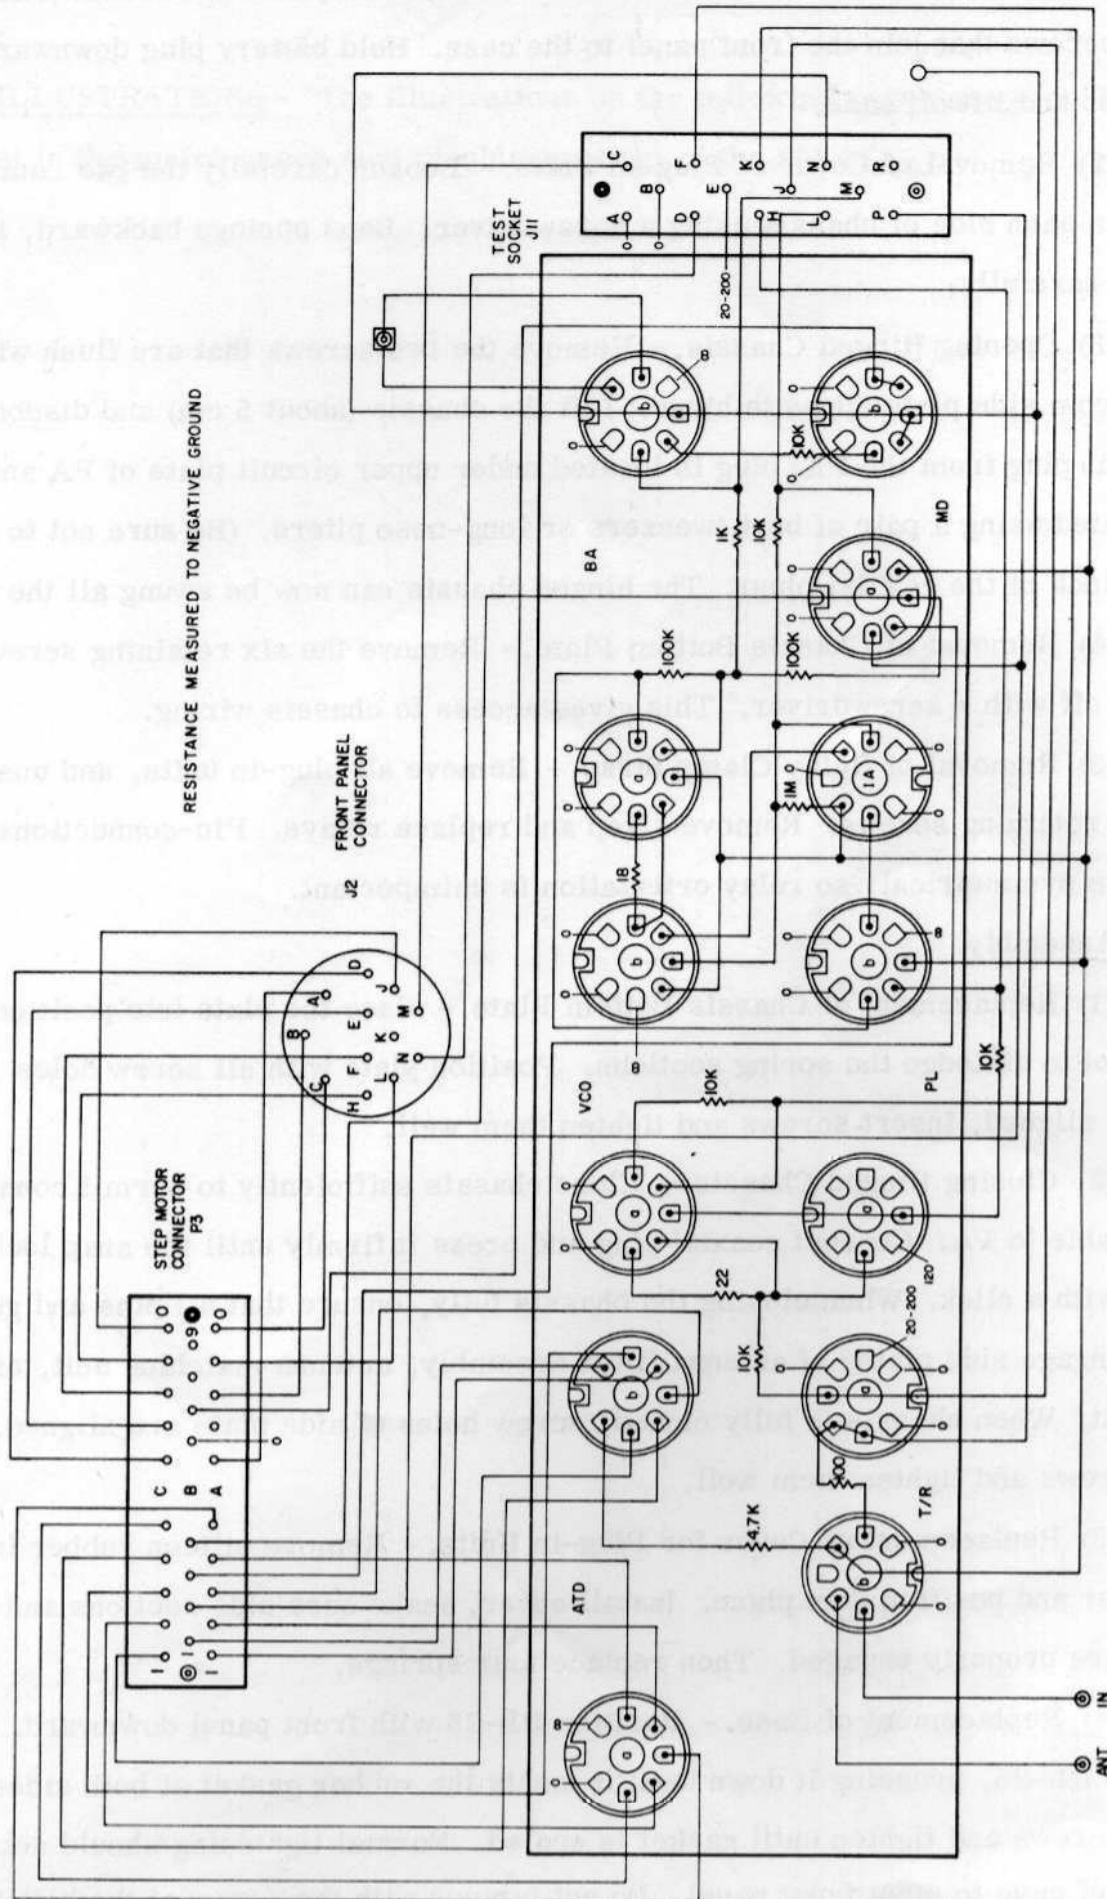

Figure 5-1. Resistance Measurements
e. Troubleshooting Chassis Wiring. - This procedure localizes trouble in the wiring and components of the chassis assembly, by resistance measurement with a multimeter. Trouble can also be localised in the multiconductor cables and to a limited extent in the front panel assembly. Before measuring resistances, remove all external connections to the RB-25 as well as the seven plug-in units. The normal resistance values and the connecting leads are shown in figure 5-1. If an incorrect reading results, the RB-25 must be disassembled further for repair; this includes opening the hinged chassis, removing the coaxial plug under the printed board of the PA assembly, and removing the chassis bottom plate. Disassembly and assembly of these parts must be performed carefully and according to the instructions in paragraph 5-2; otherwise the RB-25 may be damaged and high echelon repair will be necessary.